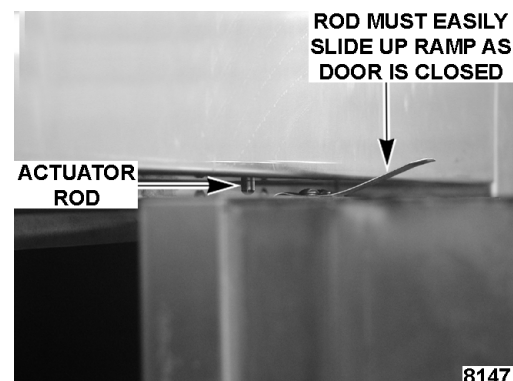

Fig. 8
- A. When door switch actuator rod is in the down position (door open), the rod should extend 3/8" to 7/16" from the underside of the header and easily slide up ramp as door is closed (Fig. 8). Slide ramp should be positioned as shown. If not, re-form ramp as necessary.